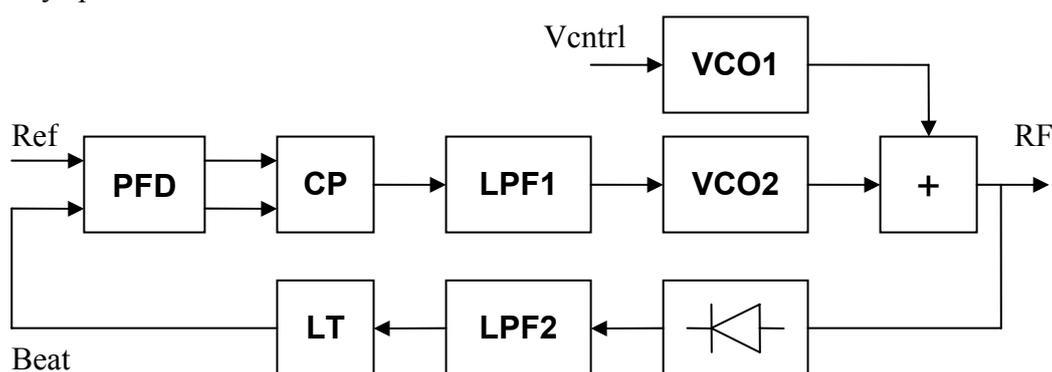

Figure 1: System Block diagram of Beat Frequency Oscillator
A block schematic of a PLL-based beat frequency oscillator is shown in Figure 1. The PLL will receive a reference clock (*Ref*) from an external source (signal generator). A phase-frequency detector (PFD) will compare the reference input with the beat frequency (*beat*). The outputs of the phase-frequency detector are up/down signals. The up/down signals controls a charge-pump (CP) that outputs a current-pulse, whose pulse-width is proportional to the phase/frequency-error. The current-pulse is filtered in a loop-filter (LPF1), which results in a control-voltage to control a voltage controlled oscillator (VCO2). The final output is generated as the summation of the two VCOs. Based on control voltage the beat frequency of the output signal *RF* is changed. The output is rectified using a diode, filtered in a low-pass filter (LPF2) and voltage level translated (LT) to generate the beat frequency. The input control-voltage of VCO1 is kept fixed for one set of tones and can be changed to shift the frequency spectrum.